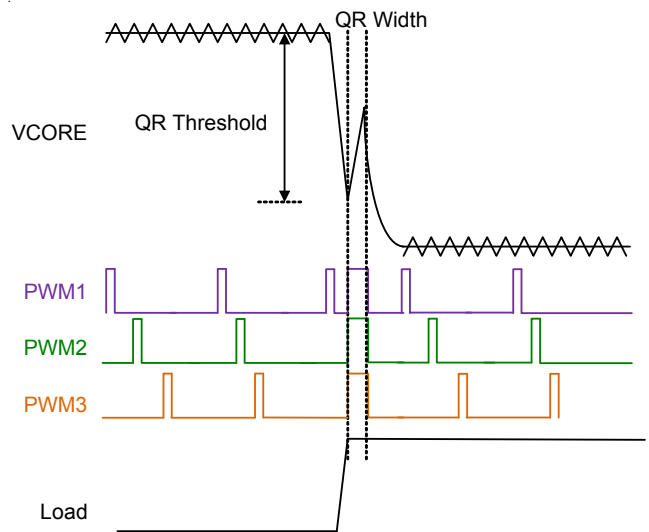
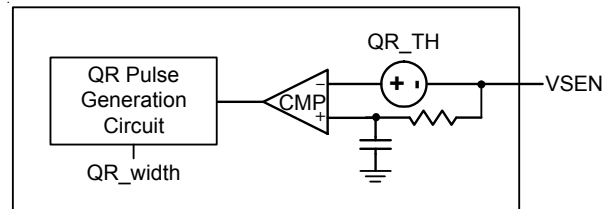

Figure 22. Quick Response Mechanism
Figure 23. Simplified QR Trigger Schematic
**Quick Response (QR) Mechanism**
When the transient load step-up becomes quite large, it is difficult for loop response to meet the energy transfer. Hence, that output voltage generate undershoot to fail specification. The RT3606BC has Quick Response (QR) mechanism being able to improve this issue. It adopts a nonlinear control mechanism which can disable interleaving function and simultaneously turn on all UGATE one pulse at instantaneous step-up transient load to restrain the output voltage drooping, Figure 22 shows the QR behavior.
The output voltage signal behavior needs to be detected so that QR mechanism can be triggered. The output voltage signal is via a remote sense line to connect at VSEN pin that is shown in Figure 23. The QR mechanism needs to set QR width and QR threshold. Both definitions are shown in Figure 22. A proper QR mechanism set can meet different applications. SET2 can set QR threshold and QR width by internal current source 80µA with multi-function pin setting mechanism.